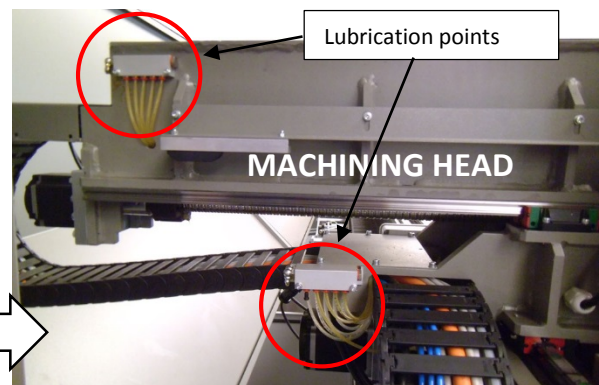

Fig. 68
2. Lubricate the runner blocks and the guides through two lubrication points (Fig. 68),